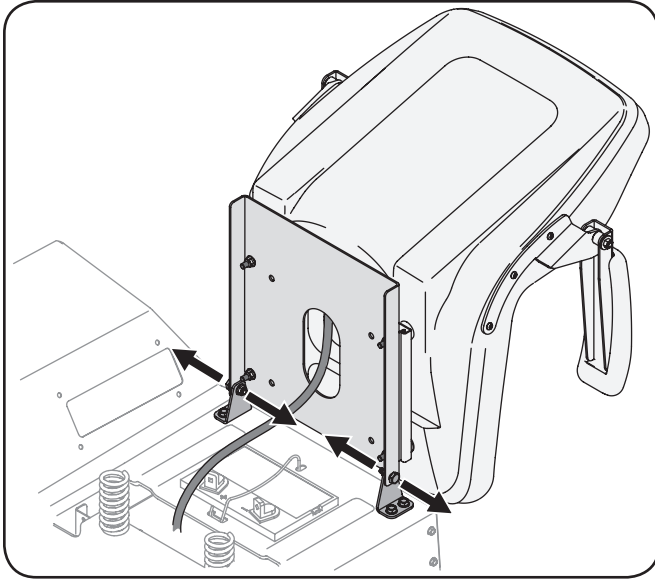

Figure 3-3
- Remove the two shoulder bolts and lock nuts in the seat pan as shown in Fig. 3-3.